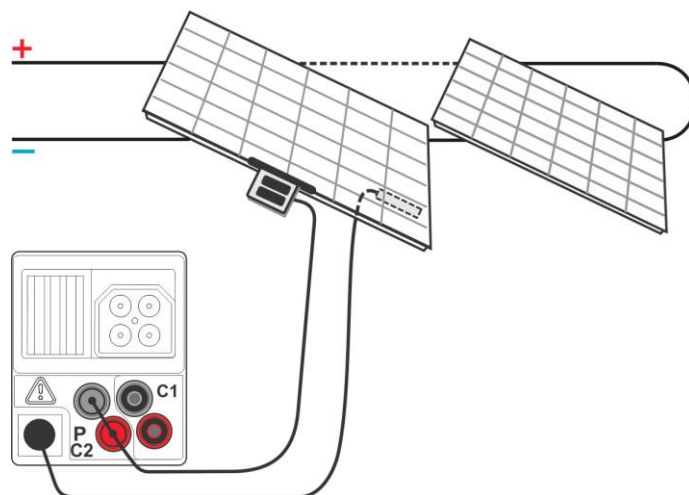

Figure 5.31: Measurement of environmental parameters
- ❑ **Connect** environmental probes to the instrument (see **Figure 5.31**).
- ❑ **Connect** probes to the item to be tested (see **Figure 5.31**).